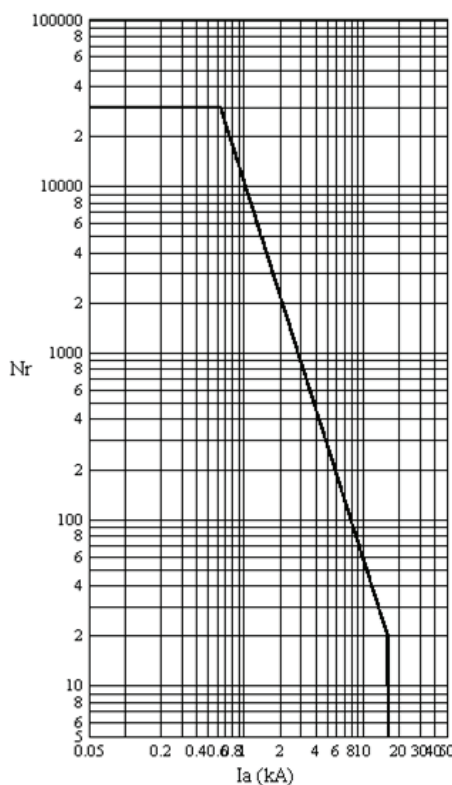

Figure 290: Trip Curves for a typical 12 kV, 630 A, 16 kA vacuum interrupter
*Figure 290* shows that there are 30,000 possible operations at the rated operating current of 630 A and 20 operations at the rated fault current 16 kA. Therefore, if the tripping current is 10 kA, one operation at 10 kA is equivalent to 30,000/60=500 operations at the rated current. It is also assumed that prior to this tripping, the remaining life of the circuit breaker is 15,000 operations. Therefore, after one operation of 10 kA, the remaining life of the circuit breaker is 15,000-500=14,500 at the rated operating current.